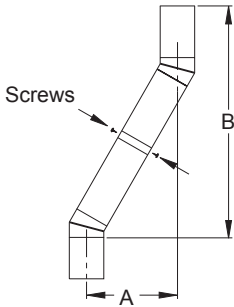

Figure 9 - Elbow Offset
Continue to assemble chimney sections as outlined above, making sure that both inner and outer pipe sections are locked together. When installing double wall snap-lock chimney together, it is important to assure the joint between chimney sections is locked. Check by pulling chimney upward after locking. Chimney will not come apart if properly locked. It is not necessary to add screws to keep chimney together (exception, see Figure 9, page 8).
- All pipe connections between offset and return must be secured with two screws on the outer pipe only (see Figure 9, page 8). Do not penetrate inner stainless.